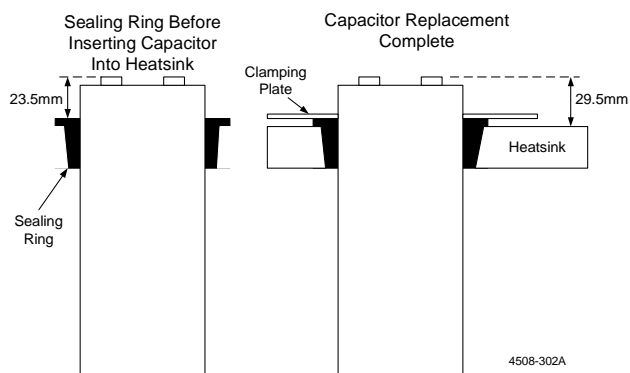

Figure 3.27: Bus Capacitors Replacement
- 4) Fit the jig to the capacitors then tighten the clamping plate screws. If a jig is not be available precise fitting of the individual capacitors is required see figure 3.27.